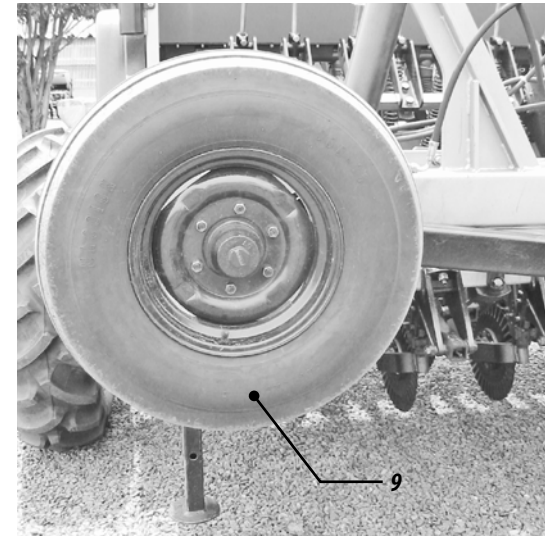

Figure 57
- 05 - Operate the wheelsets (9) of the seed drill in order to raise it (key #2 of the panel), figure 57.